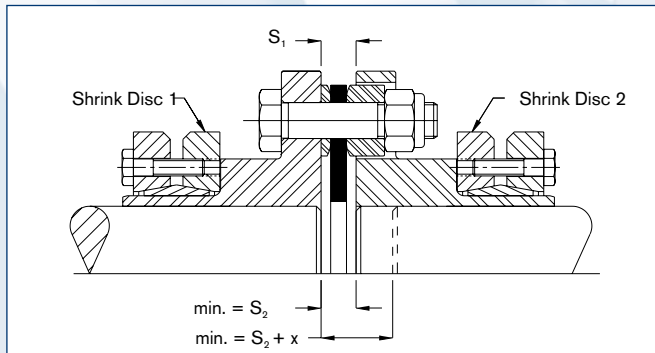

Fig. 3: Single Flexing
- Bring equipment into the best visual alignment possible. Position the hubs axially so that the distance between shaft ends is within min. and max. dimensions S_1 (Single Flexing) and S_2 (Double Flexing) for standard couplings. See Figures 3 and 4. For non-standard couplings, check corresponding coupling drawing.